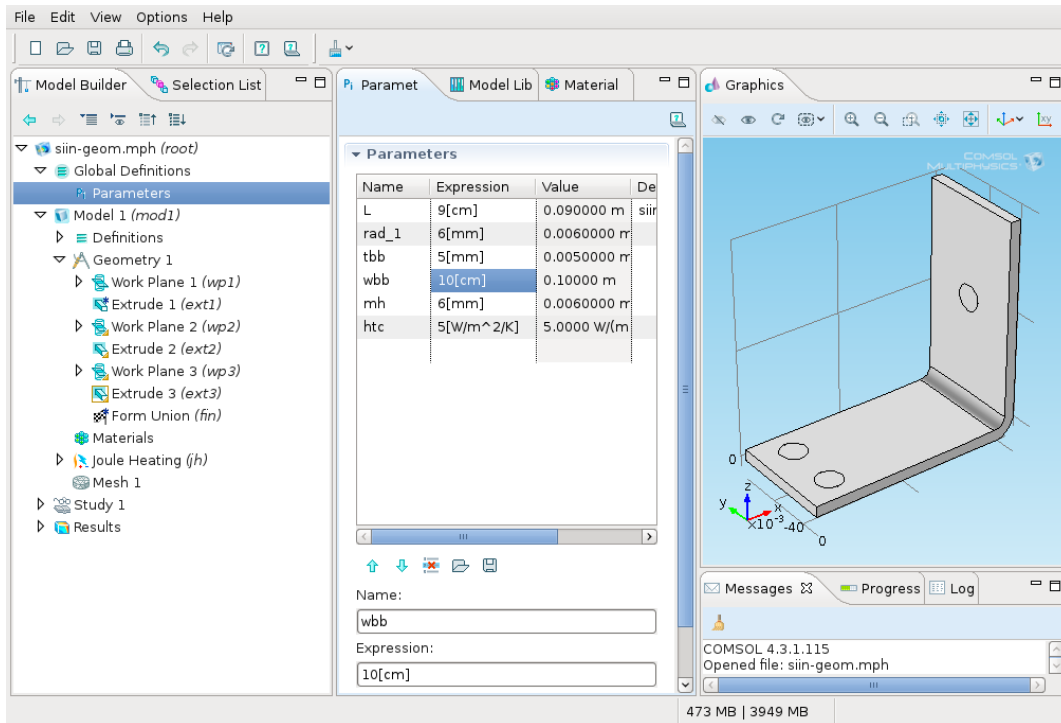

Figure 28: Changing the bushbar width.
- 2 **Global Definitions** → **Parameters**: set **10 cm** as a value for the **wbb** (Fig. 28).